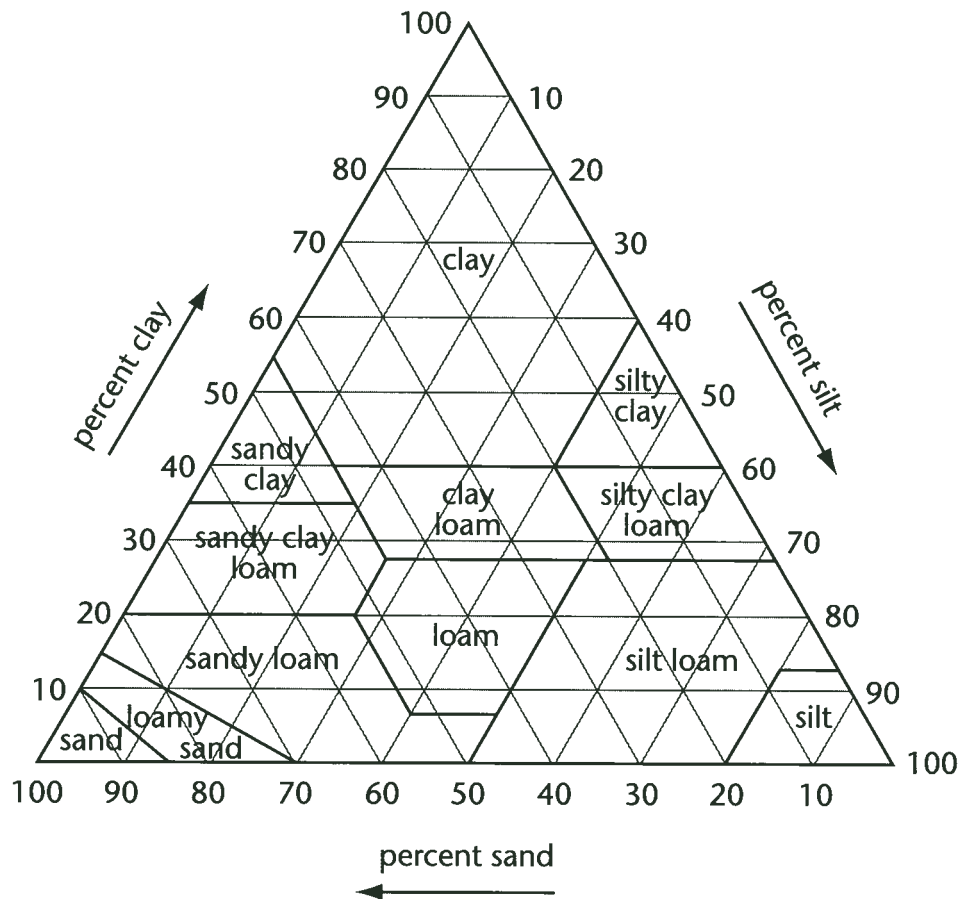

Fig. 9-1: Soil Triangle
3. What type of soil do you have? Use the Soil Triangle, **Fig. 9-1**.